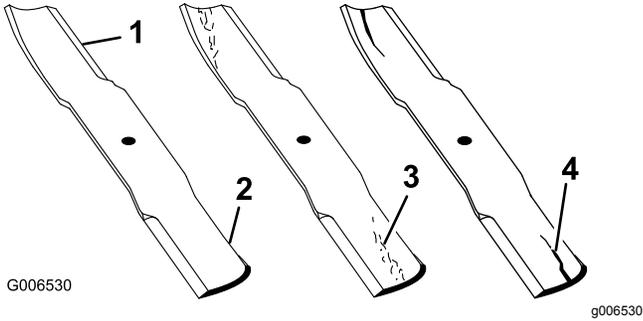

Figure 70
2. Inspect the cutting edges (Figure 70).
4. Inspect the blades, especially the curved area (Figure 70).
- If you notice any damage, wear, or a slot forming in this area (Figure 70), immediately install a new blade.